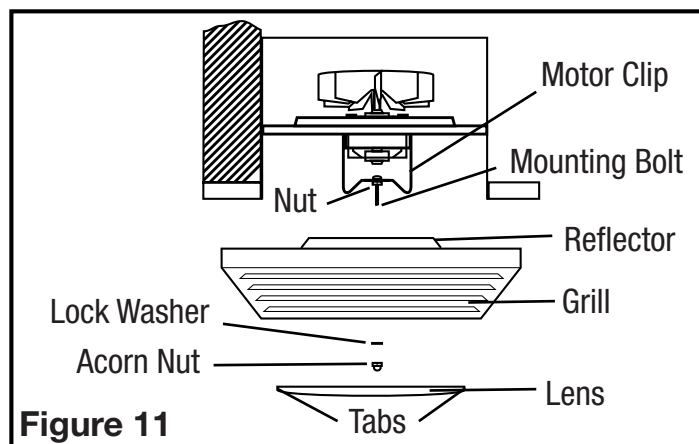

Figure 11
2. Install the grill/lens/light reflector, by first removing the lens from the grill (there are two tabs on either side that hold the lens in place). Then remove the acorn nut and the lock washer which are installed on the reflector mounting bolt in the fan housing. Adjust the height of the reflector mounting bolt so that the grill will be tight up against the finished ceiling and less than 1/4" of the reflector mounting bolt protrudes through the reflector. Secure the reflector bolt's position by tightening the factory installed nut against the motor clip (**Figure 11**).